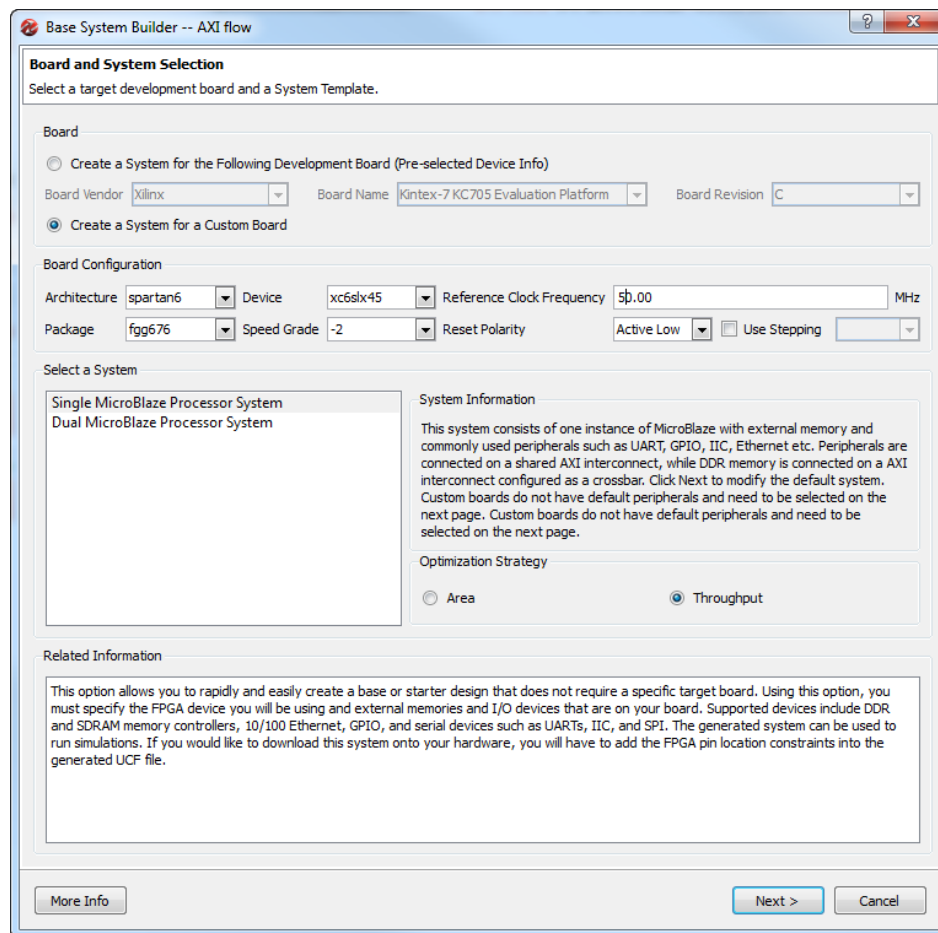

Figure 5: BSB Wizard, Create System for Custom Board
4. On the Select Board page, select Create a System for Custom Board. Then fill fields with platform details (Figure 5). Click Next.